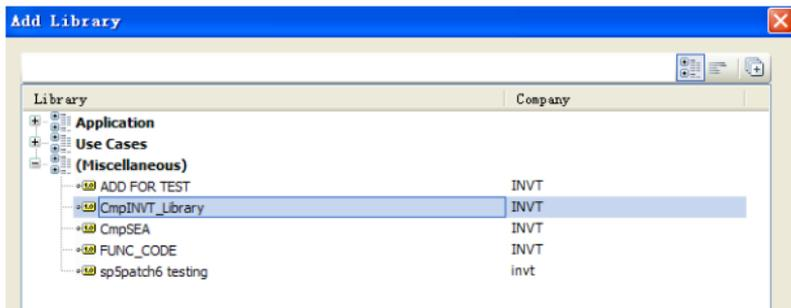

Figure 4-5
4. Choose the function library **CmpINVT_Library** and click **OK**, as shown in Figure 4-5.